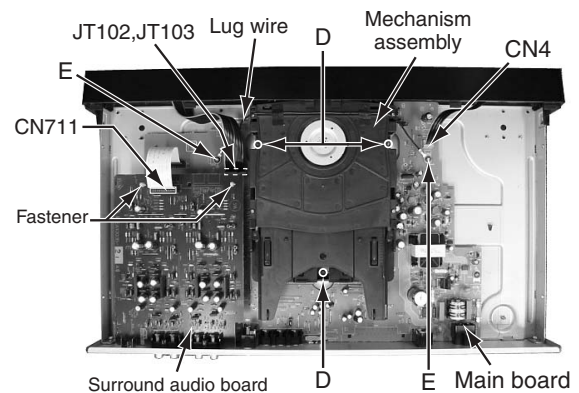

Fig.2-2
2.1.3 Removing the mechanism assembly (see Fig2-2,2-3)